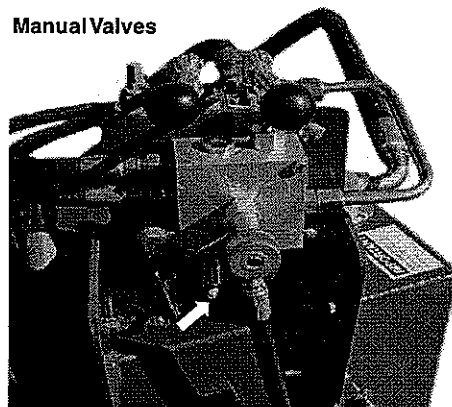

figure 35
5. Check the brush pattern by following step 1. Loosen the jam nut and adjust the rod end valve (figures 35 and 36), turning it in for a heavier pattern or out for a lighter pattern. Repeat this step until the brush makes an even 2 in. (51 mm) pattern.